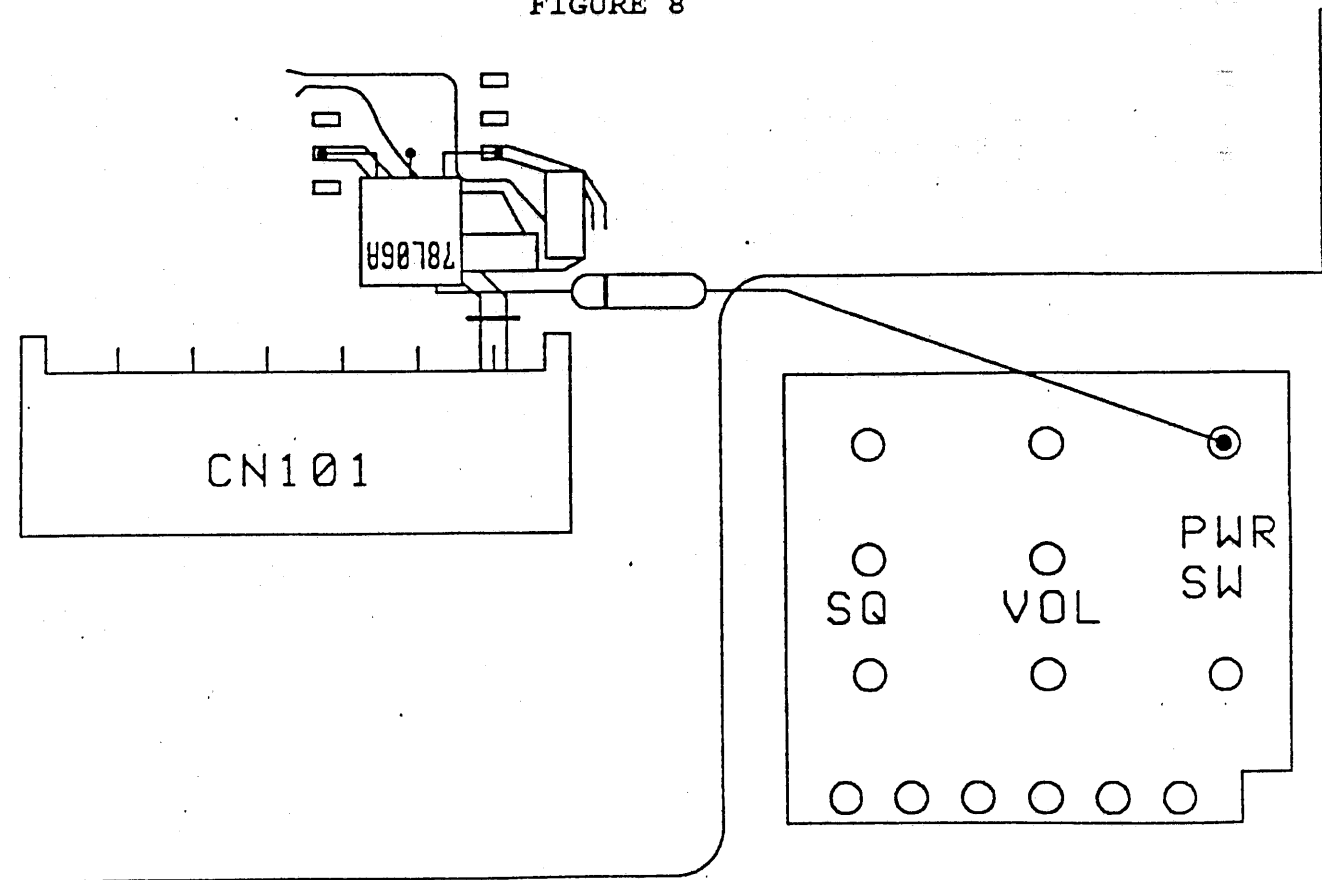

FIGURE 9
20. Place the 6V AVR on the board and make sure the leads contact the foils. Cut the leads to size and then solder the device to the board. **Figure 9**